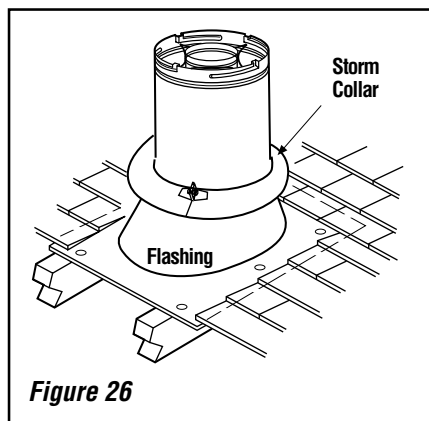

Figure 26
I. Install the roof flashing - Extend the vent sections through the roof structure. Install the roof flashing over the vent section and position such that the vent column rises vertically (use carpenters level - see **Figure 26**). Nail along perimeter to secure flashing or adjust roofing to overlap the flashing edges at top and sides only and trim where necessary. Seal the top and both sides of the flashing with waterproof caulking.
J. Install the storm collar - Install the storm collar, supplied with the flashing, over the vent / flashing joint. See **Figure 26**. Loosen the storm collar screw. Slide collar down until it meets the top of the flashing. Tighten the adjusting screw. Apply non-combustible caulking or mastic around the circumference of the joint to provide a water tight seal.